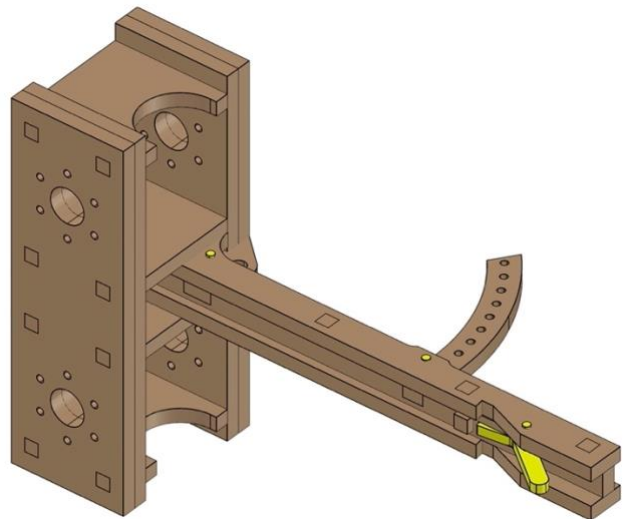

Fig. 30
- *Fig. 30* shows the completed process.